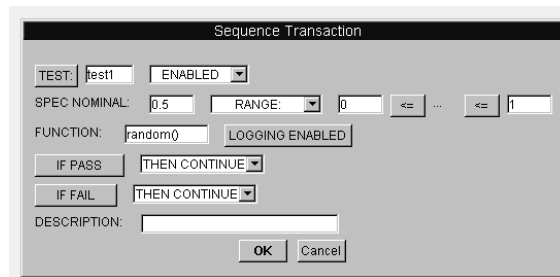

Figure 17.1. Configuring test1
4. Replace the FUNCTION: field with random(); click OK. See Figure 17.1.
Note: See Figure 17.1 again.